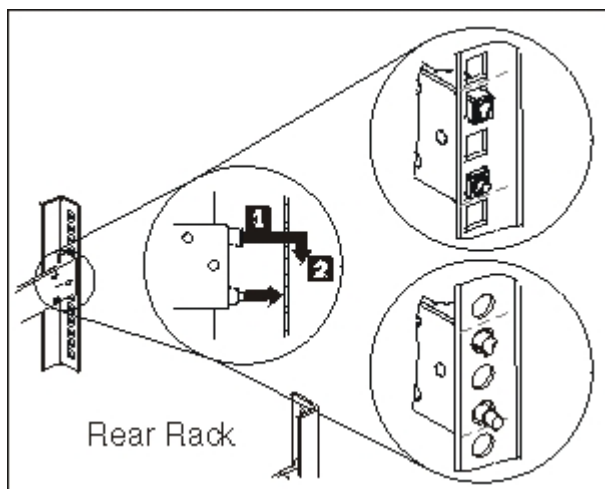

Figure 7. Install the rear end of the slide rails
2. Install the rear end of the slide rails, as shown in Figure 7: